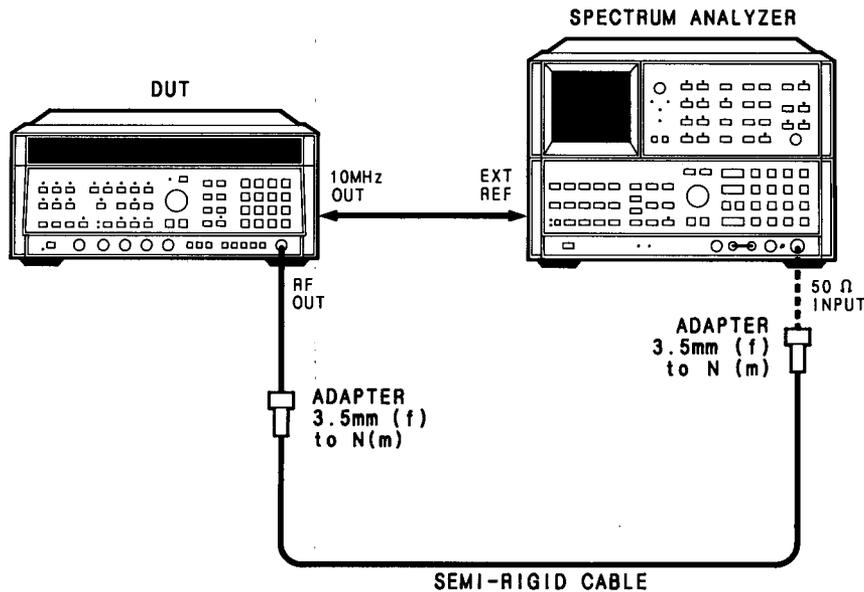

Figure 4-7. Spurious Signals Test Setup (10 MHz to 20 GHz)
1. Connect equipment as shown in Figure 4-7. The position of the DUT can affect spurious responses; therefore, place the DUT in its normal operating position (i.e., flat on its feet) for this test. Allow the instruments to warm up for one hour.